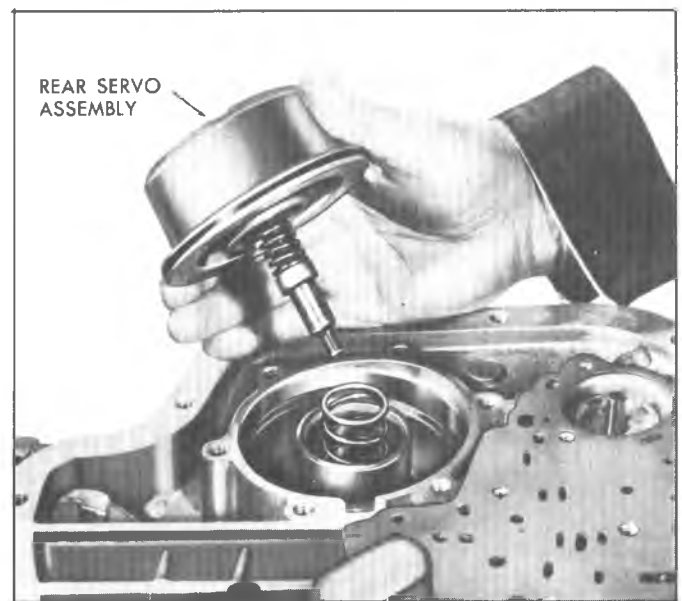

Fig. 148T-Installing Rear Servo Assembly
3. Lubricate and install rear servo assembly into case (fig. 148T).